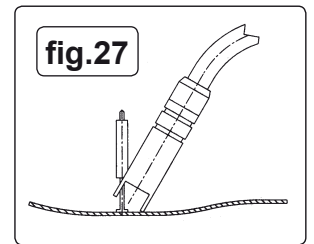

fig.27
**8.7 Rivet Welding. (Fig 27).**